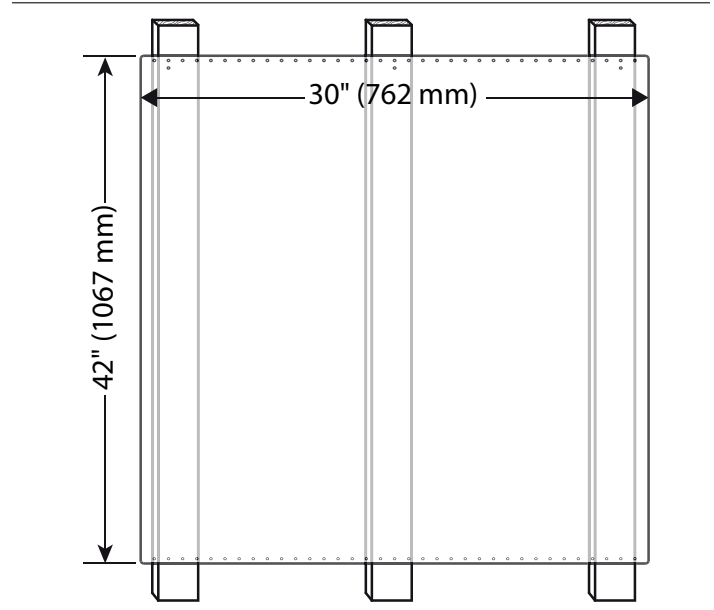

Figure 9: Backsplash Installation
3. Per each wall stud, use (2) 1" (25.4 mm) Phillips head screws to secure both the top and bottom of the Backsplash (see *Figure 9*). Space screws evenly across top and bottom of Backsplash.